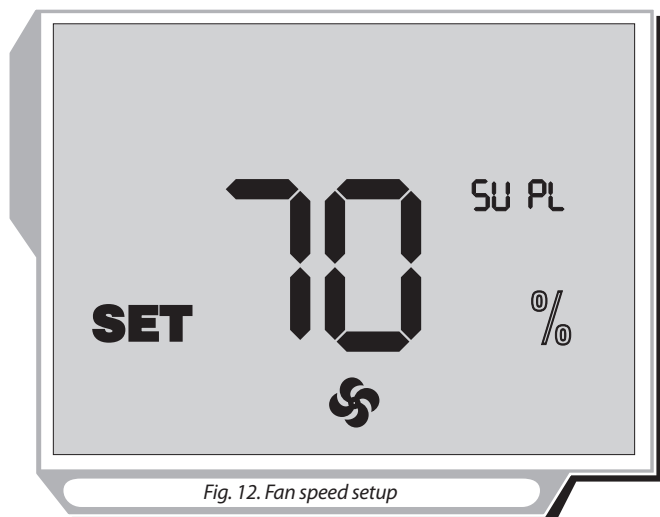

Fig. 12. Fan speed setup
- To change the supply fan power press and hold the  button, then press the  button to increase the speed or press the  button to decrease it. Each press of the  and  buttons increases or reduces the supply fan power in 1 % increments. While the  button is pressed the display screen will indicate the current supply fan power (Fig. 12).